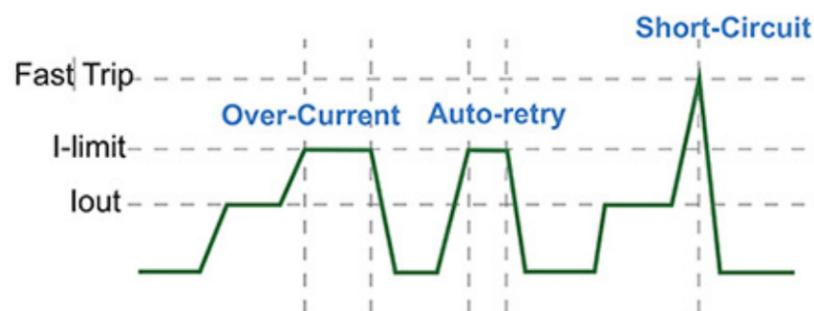

Figure 2: eFuses include current limiting with auto-retry to protect against excessive load currents and short-circuit protection. (Image source: Littelfuse)
Figure 2: Optocouplers (A) can only transmit signals, capacitive isolators (B) can transmit limited amounts of power and signals, and magnetic isolators (C) can handle higher power levels as well as signals. (Image source: Texas Instruments)
Ferrite cores can handle more power. When power needs are below about 100 mW, an air core can provide a lower-cost and simpler solution. Each of the three technologies supports different combinations of signal and power transmission (Figure 2).
If the fault is still there, it will again automatically regulate and reduce the current, wait several ms, and restart. The sequence of reducing the current and restarting until the fault is removed is sometimes referred to as 'hiccup mode' protection. In the case of a short-circuit condition, the input current rises very rapidly, and the eFuse immediately reduces the input current to a safe level (Figure 2).